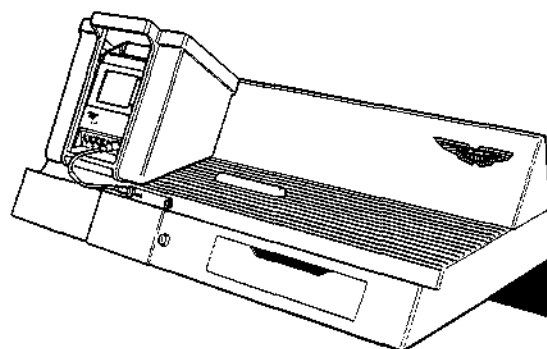

Figure 5. Normal PDU position
6. Place the carrying case onto the base station at the far left side (Fig 5). This is the normal place for charging the battery, loading software and storing the PDU. Note that it is retained by raised retaining blocks which fit inside the recesses under the carrying cases (Fig 5).